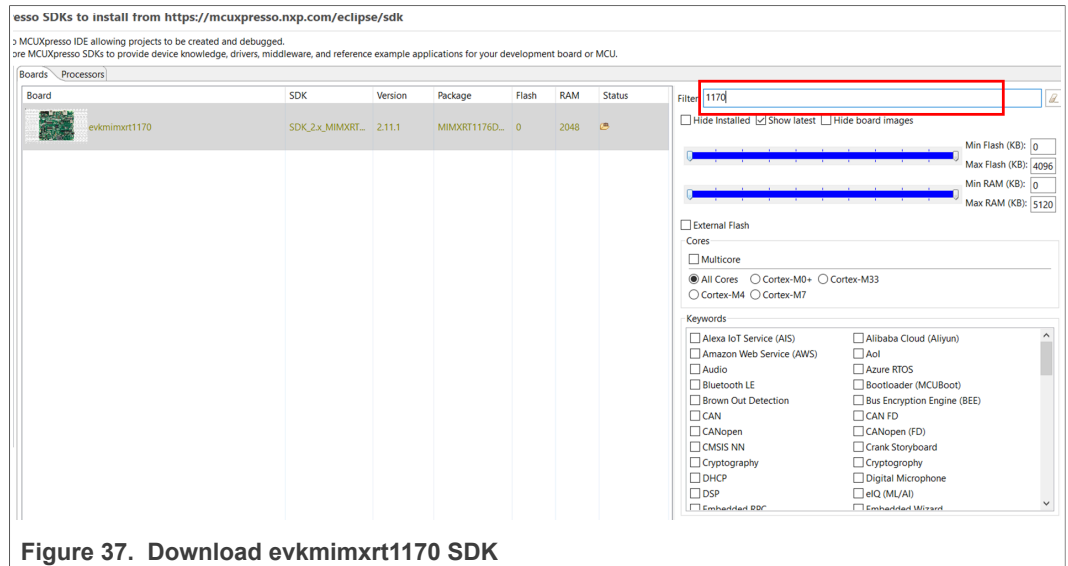

Figure 37. Download evkmimxrt1170 SDK
4. Type 1170 in the filter section, and select **evkmimxrt1170** as shown in Figure 37.